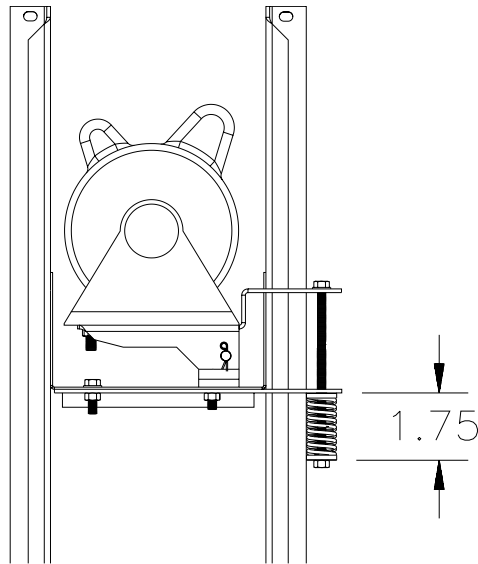

Figure 3
2. Mount the belt tightener top to the motor using the bolt supplied. Looking into the rear of the motor, the spring slots should be on the right side of the motor. The motor should be installed with the right side of the motor against the right side of the belt tightener top as shown in Figure 3.
7. Tighten the lock nut on the spring assembly so that the compressed spring is $1\frac{3}{4}$ inches (50.9 mm) as shown in Figure 3. When the belt is installed, the motor should be sitting in a horizontal position as shown in Figure 3. The horizontal position can be obtained by adjusting the fan motor base up or down.